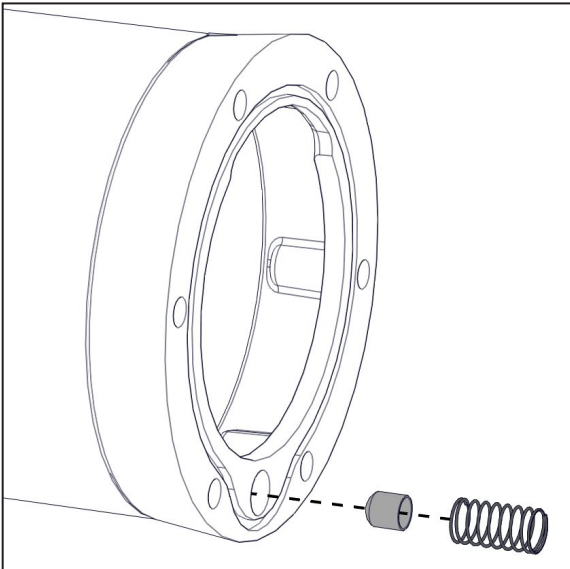

Figure 31 — Remove small spring and scavenge screen
- ☐ Remove the small spring and scavenge screen. The screen can be removed by carefully pushing it out of the oil scavenge hole from the inside of the AOST (Figure 31).